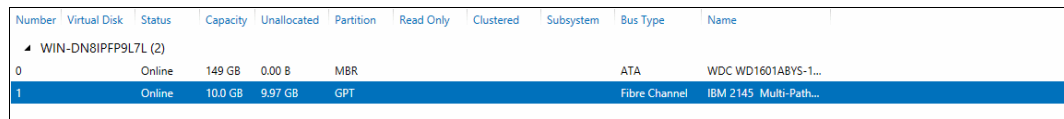

Figure 5-36 The mapped volume online and initialized as a GPT disk
- The disk now shows as online and initialized with Globally Unique Identifier (GUID) Partition Table (GPT) partitioning, as shown in Figure 5-36.